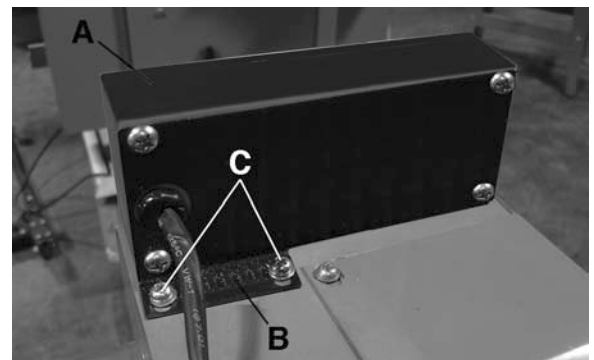

FIGURE 5
1. Install the digital readout (A) Fig.5 to the top of the headstock. Line up the mounting holes in the fixing plate (B) with the ones in the headstock. Secure the digital readout assembly using two pan head screws, spring washers and washers (C).